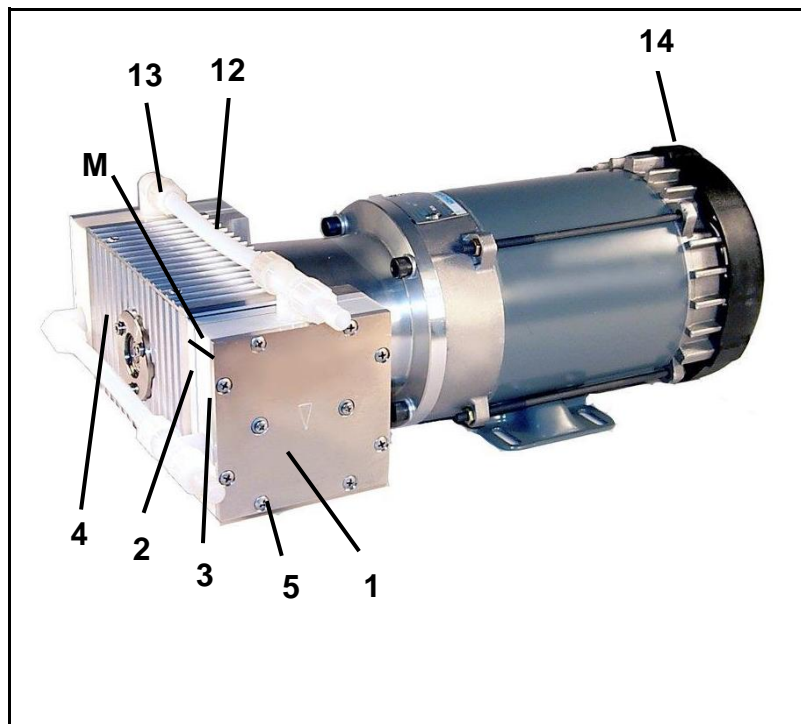

Fig. 5: UN860.1.2 FTI EX
3. Undo the three screws that hold the fan cover (see fig. 5, position **(14)**) and remove the fan cover from the motor.